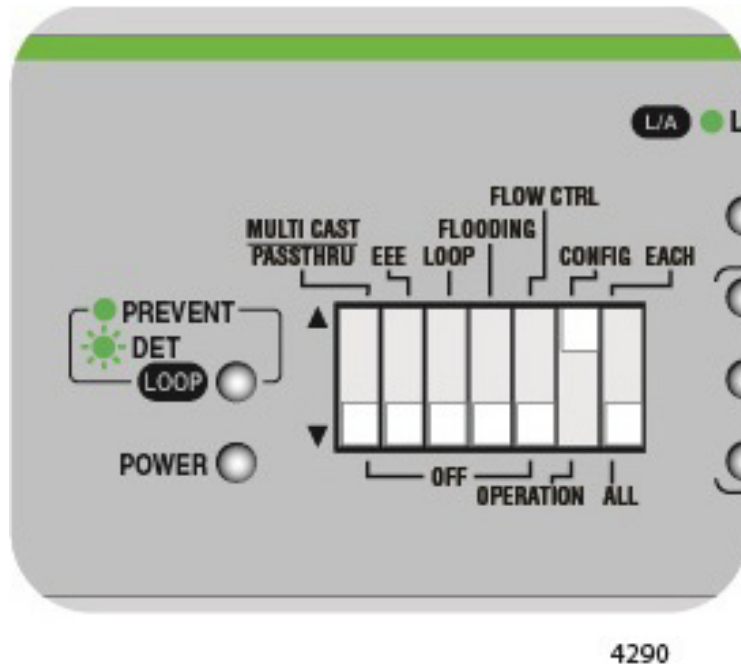

Figure 43. DIP Switch Settings for ALL Port Configuration
2. Set DIP switch # 7 (ALL/EACH) to the DOWN (ALL) position. All of the port SPD/LOOP LEDs will begin to flash indicating that all of the ports are ready to be configured. See Figure 43.